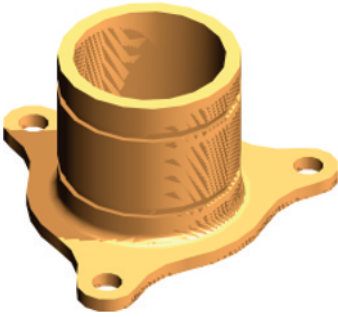
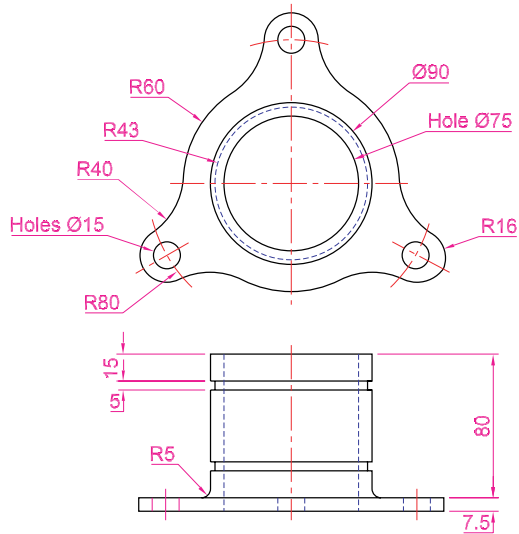

Fig. 17.41 Exercise 5 – a rendering
Fig. 17.42 Exercise 5 – two-view drawing
5. Fig. 17.41 shows the rendering of a 3D model drawing of the connecting device shown in the orthographic projection in Fig. 17.42. Construct the 3D model drawing of the device and add a suitable lighting to the scene.